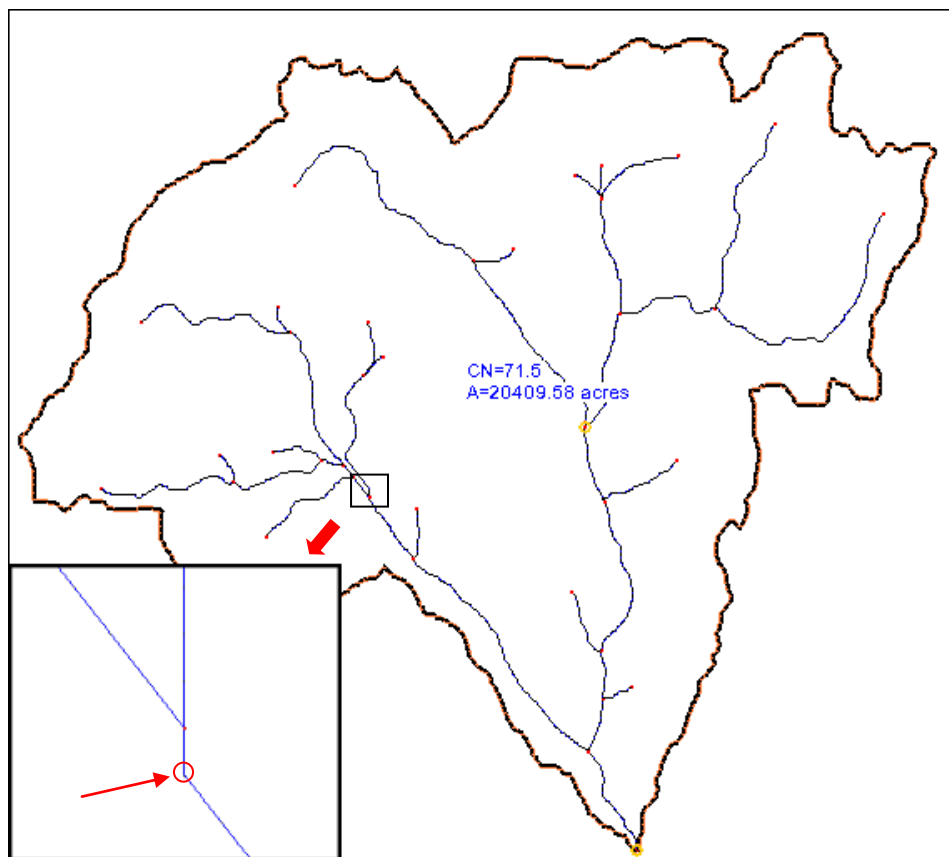

Figure 6 Zoom area, with enlarged view at bottom left
10. **Zoom**  in to the area shown in Figure 6.
11. Using the **Select Feature Vertex**  tool, select the vertex just below the main branching point (see inset in Figure 6).